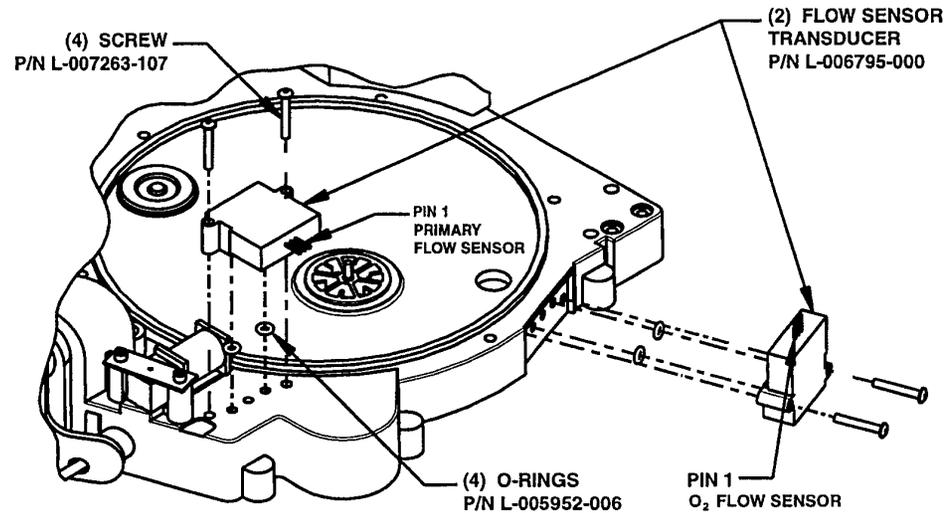

FIGURE 4-20.
1. Install each of 4 O-rings (P/N L-005952-006) so that 1 fits into each port of the 2-flow sensor transducers (P/N L-006795-000). See Figure 4-20.
2. Orient and install both flow sensor transducers. See Figure 4-20.
5. Install the flow sensor cables onto the flow sensors, if necessary. The primary flow sensor cable (P/N L-007819-000) will have a white lead wire that denotes pin . The O₂ flow sensor cable will have either a white lead wire (P/N L-007819-000) or an orange lead wire (cable P/N Y-103010-00A) that denotes pin 1. For matching pin 1 on the flow sensors, see Figure 4-20.